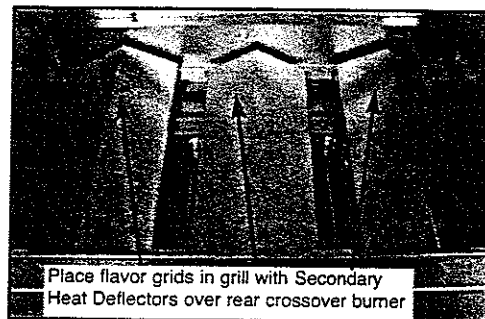

Fig. 4
2. Insert the second row of Flavor Grids into cutouts with triangle ridges facing up and secondary heat deflectors towards the back. (See Fig. 4)